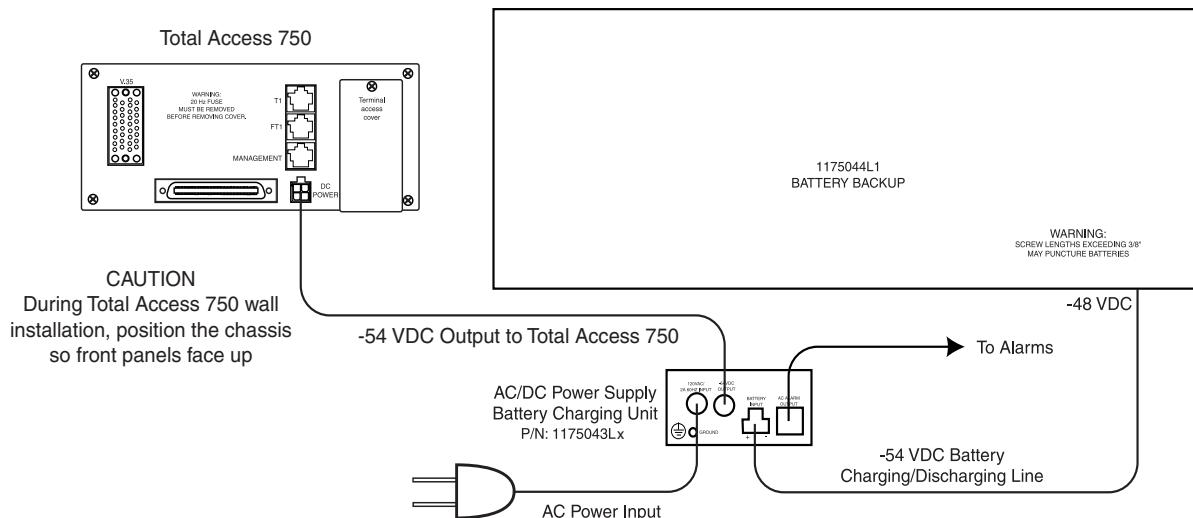

Figure 1. Total Access 750 Battery Pack Connections
This practice provides installation and maintenance procedures for the ADTRAN™ Total Access Battery Backup Unit. This pack may be used with the Total Access 612, 616, 624, 750, and 850. Figure 1 & Figure 2 are illustrations of the battery pack and connection arrangement.
7. For the Total Access 750/850, route and insert the battery cable to the AC/DC Power Supply Battery Charging unit as shown in Figure 1 on page 1. Use cable tie-downs as appropriate. For the Total Access 612/616/624, the -48 V connection from the Battery Pack may be directly connected to the BATT port on the rear of the unit as shown in Figure 2.